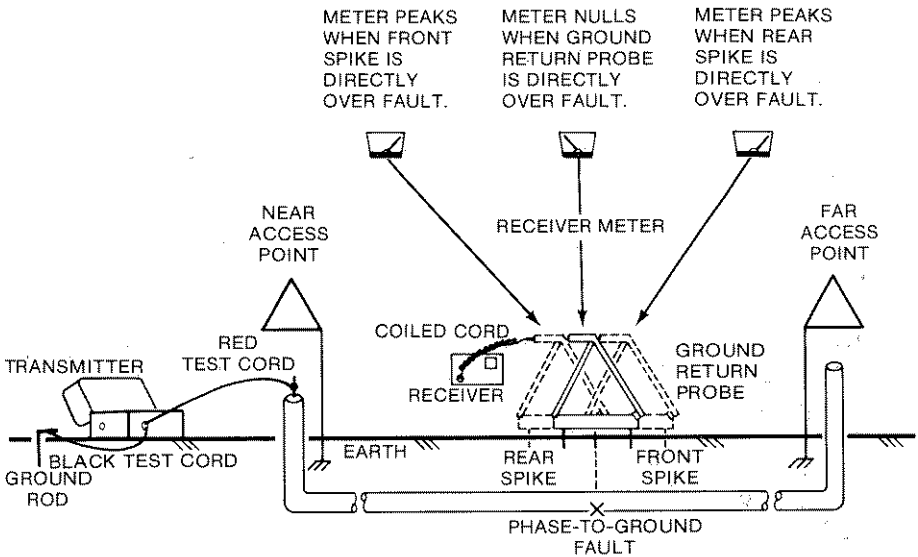

Figure 4-1.
3. Connect the black test cord clip to the ground rod (see Figure 4-1).
4. Plug the jack end of the red/black test cord into the RED/BLACK TEST CORD jack receptacle on the transmitter (see Figure 4-1).